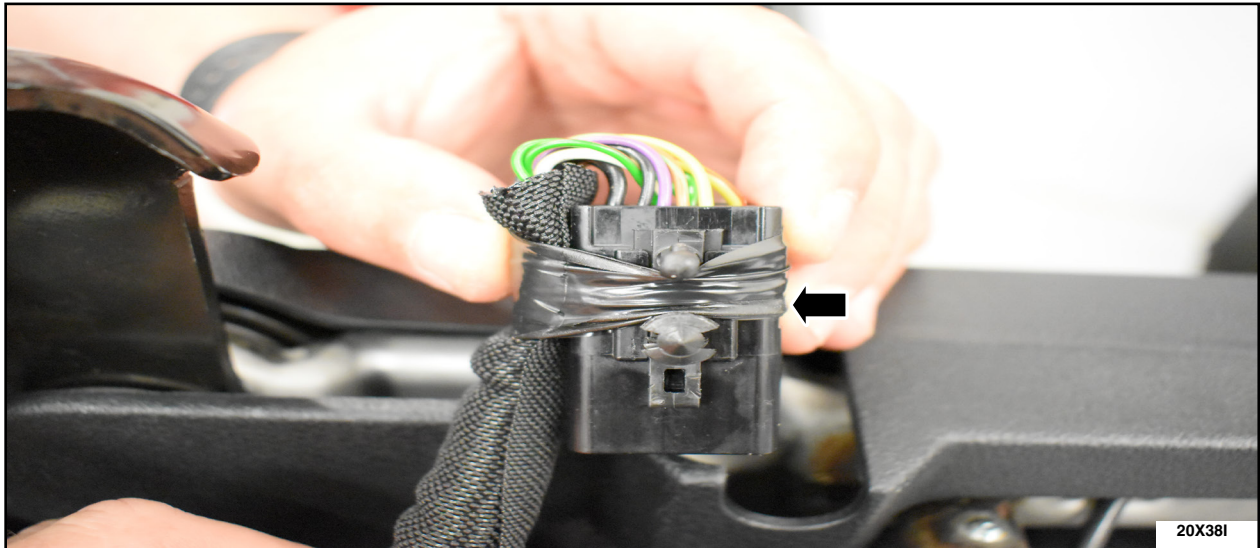

FIGURE 12
14. Wrap the wire around the connector and secure with 3 wraps of electrical tape going between the new electrical connector push pin retainer. See Figure 12.